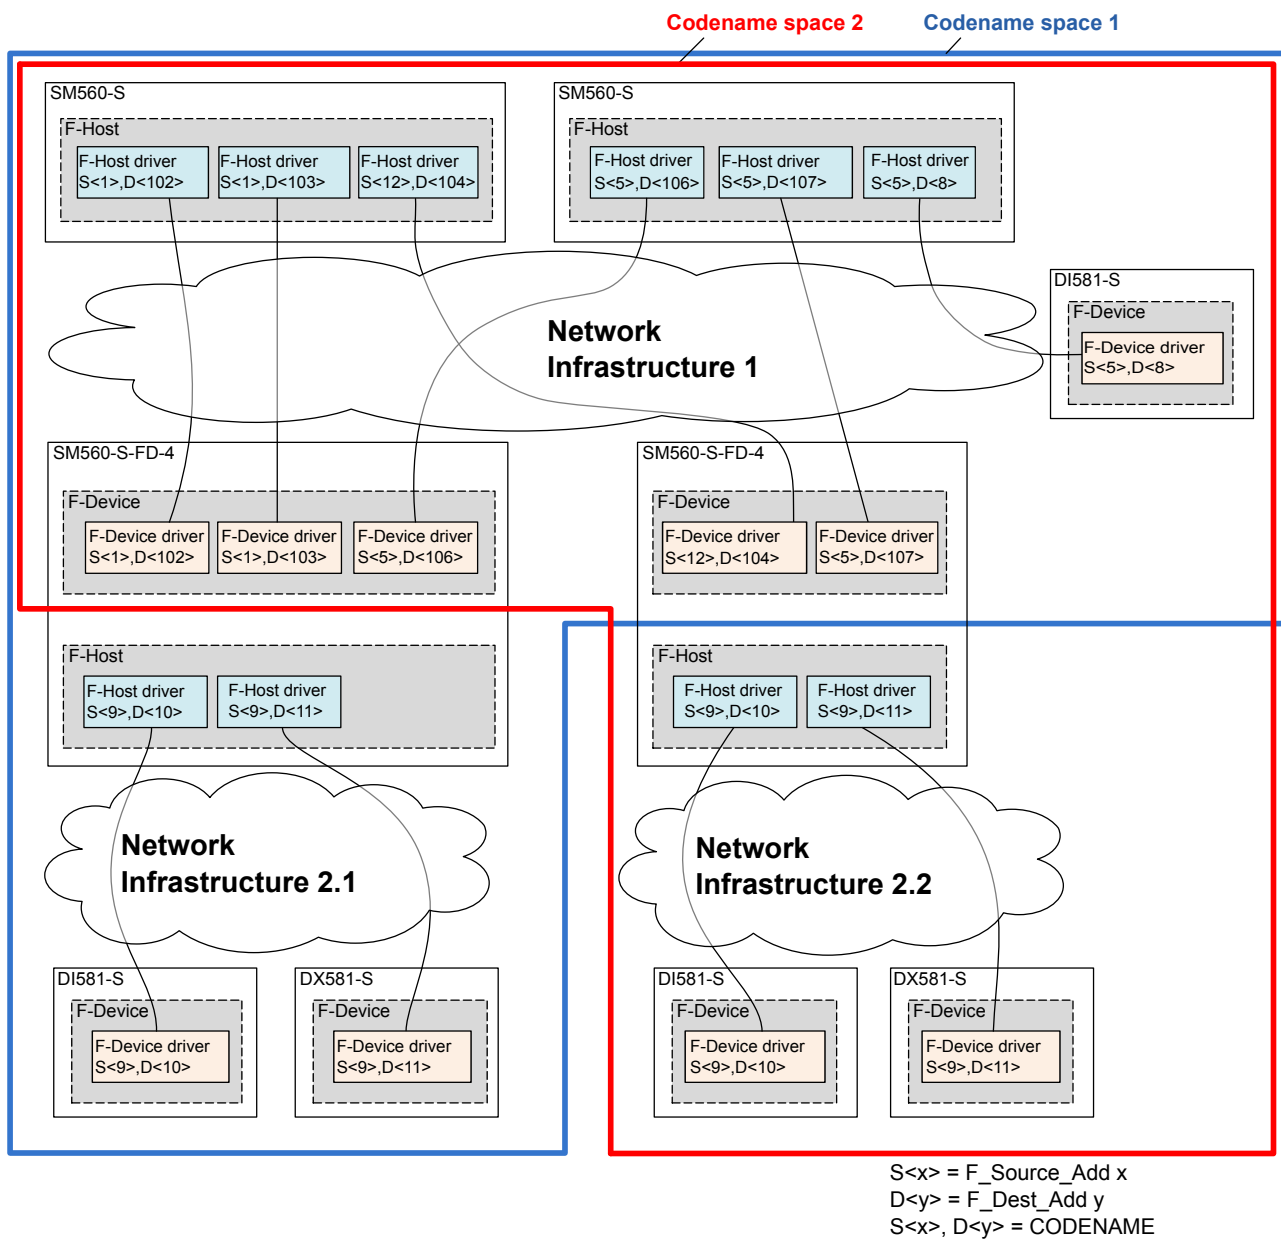

Fig. 6: Example with overlapping PROFIsafe networks and PROFIsafe address allocation
The sample system with overlapping PROFIsafe networks is shown in Fig. 6 with a generic presentation of network infrastructure, which may include WLAN, switched network, direct connection, etc.
- In the same codename space, F_Dest_Add shall be unique (see Fig. 6 for more details).